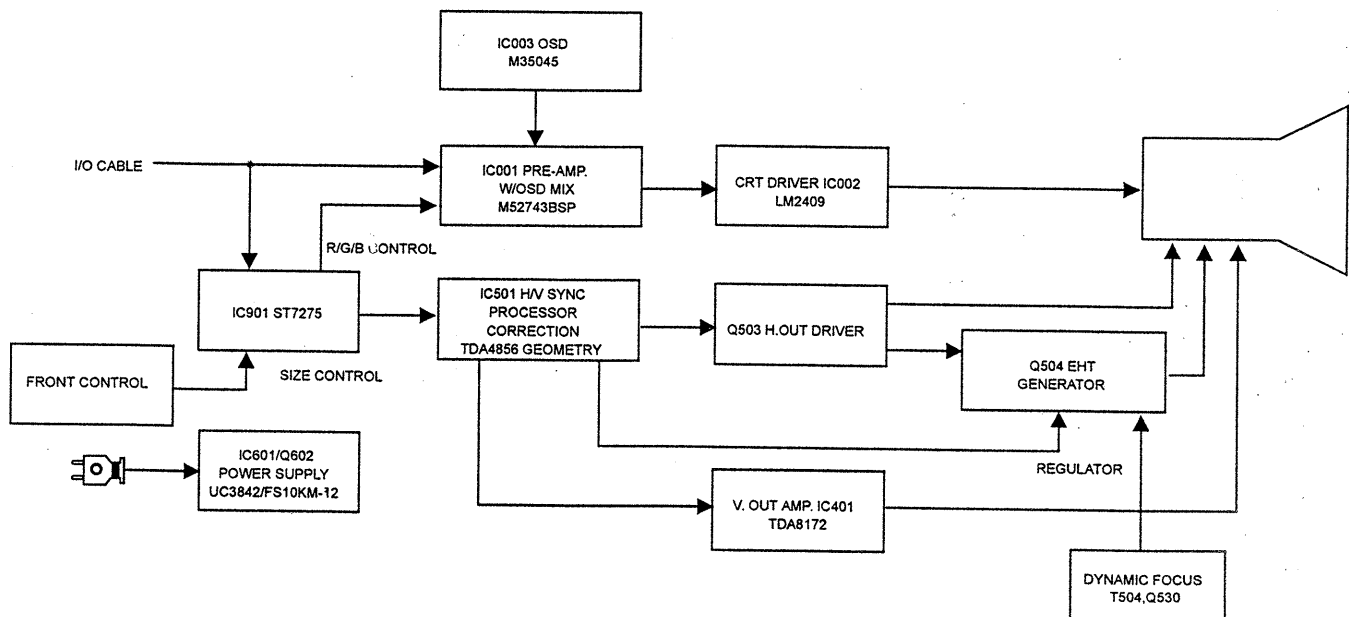

Figure 3-1 Block Diagram of Platform
- The circuit block diagram show on figure3-1.